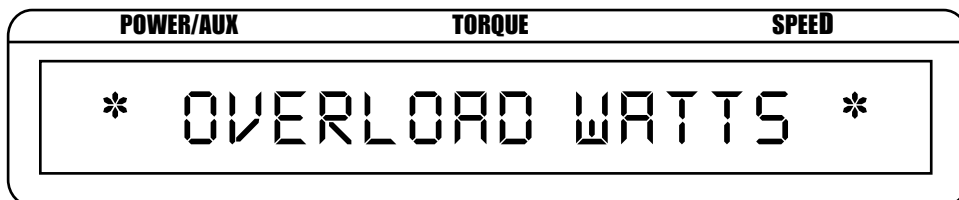

Figure 4-4 Power Overload Display
2. Use UP ▲, DOWN ▼, LEFT ◀ and RIGHT ▶ buttons to select the maximum power set point. The maximum power set point is used to indicate an overload condition. If the power reading exceeds what was programmed, an OVERLOAD WATTS message appears in the display (as seen in *Figure 4-4 Power Overload Display*).